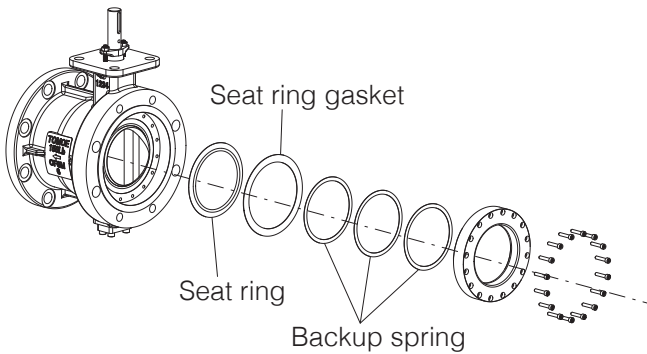
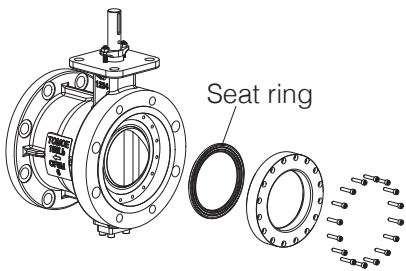

Fig. 20
Fig. 21
(1) Refer to the Assembly Instructions of DTM Valve, which you can ask for to our sales dep. In order to dismantle valve, please carry out this task along the Assembly Instructions in inverse process.
(2) If DTM Valve is fitted with a metal seat, please ensure that the seat ring gasket is replaced with a new one, after removing the seat ring retainer.
(3) Please refer to the expanded view of parts for metal seated valve (see figure 20) and soft (PTFE) seated valve as detailed in figure 21.